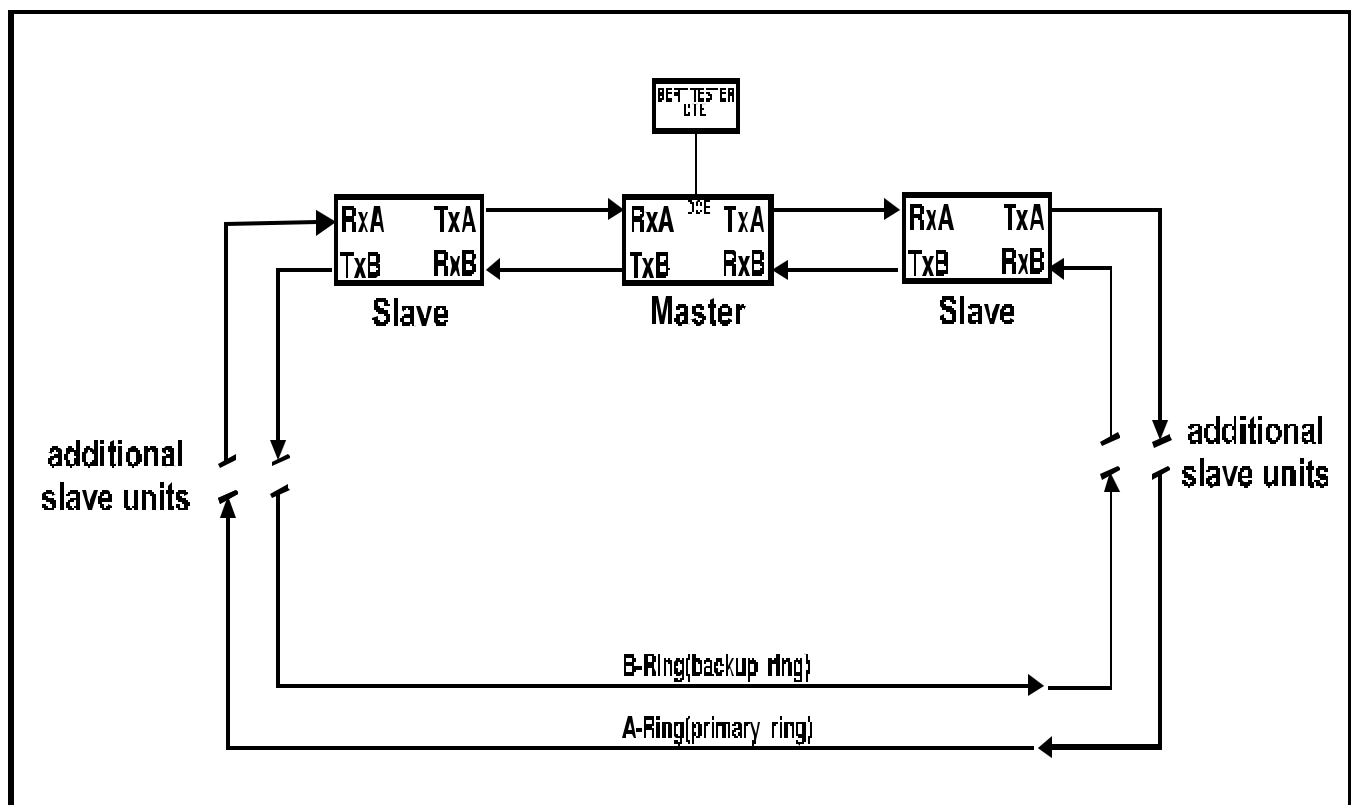

Figure 15. Bench Test Connection Diagram
1. Set up the bench test as shown in Figure 15. At the Master unit, turn "On" the "SIG-GEN" by sliding SW3 downward. The "BRD-1" and "BRD-2" LEDs on the TC2400 (Master) should start blinking. The "BRD-1" and "BRD-2" LEDs on the TC2401s (Slaves) should also blink, indicating receipt of the Master's broadcast signal.